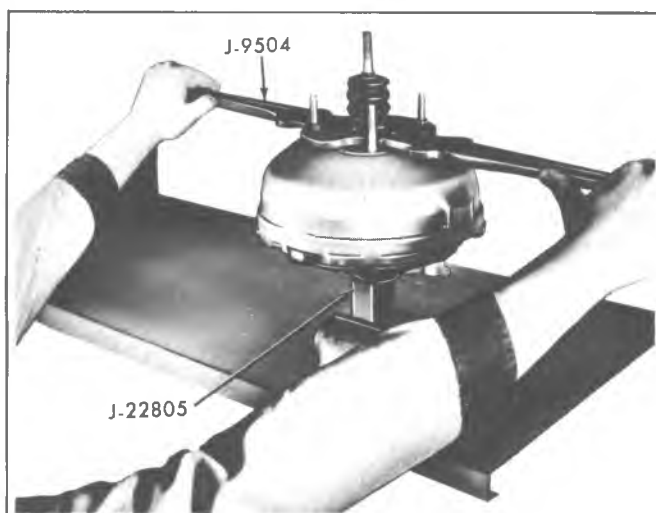

Fig. 5-2A--Unlocking Front and Rear Housings
2. Attach base of Holding Fixture J-22805 to front housing with nuts and washers and draw down tight to eliminate damage to studs. Clamp base in a bench vise with the power section up (fig. 5-2A).